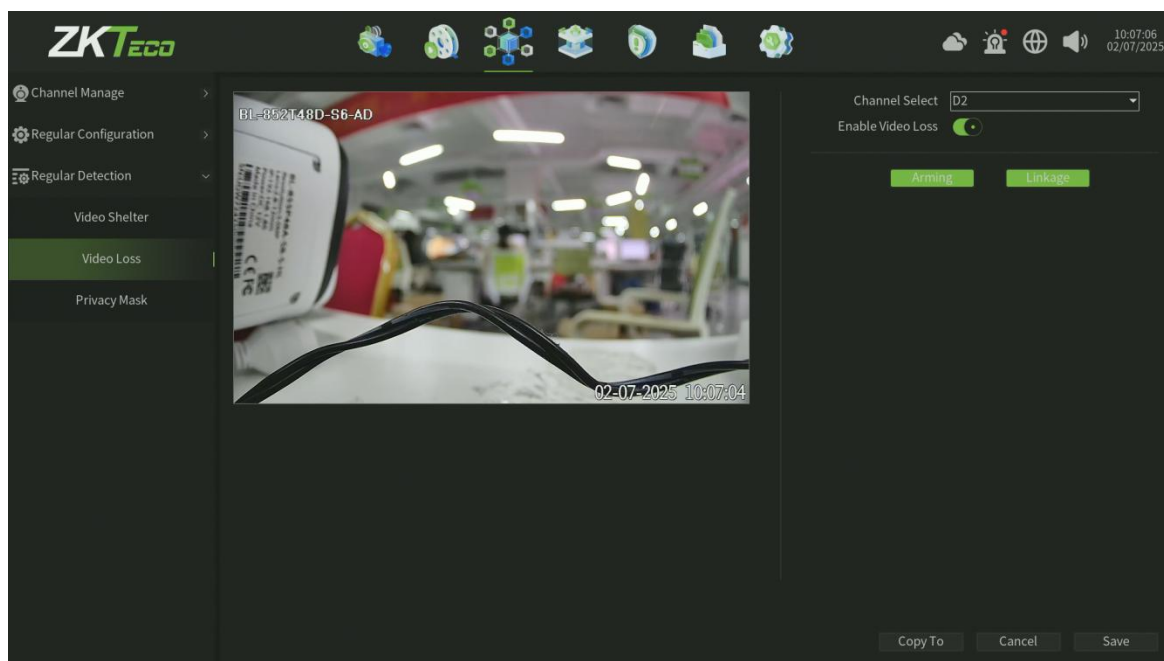

Figure 6.15 Video Loss
- Enter Video Lost interface of Regular Detection and select a channel you want to setup Video Lost Alarm, as shown in figure 6.15